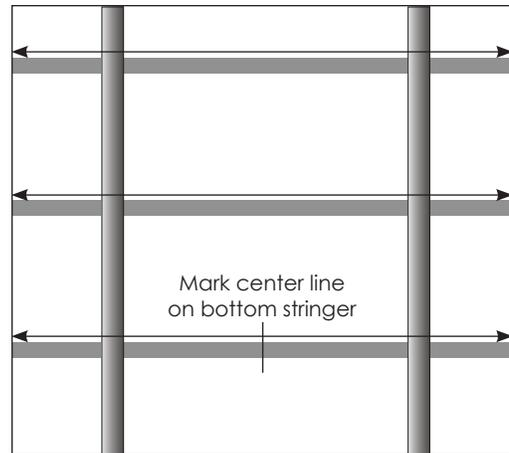

Figure 16: Verify Stringer Width
- Verify the width of the structure. Refer to **Figure 16** and measure the length of each stringer. This also helps locate the center point of the structure, serving as a reference for where to install the first cabinet.